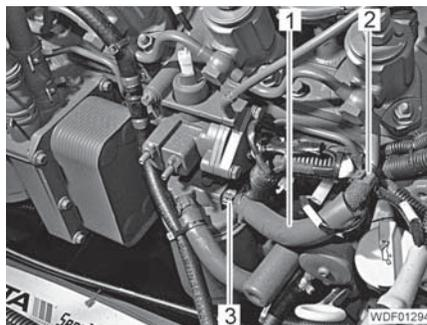

Fig. 92 Fuel line
- Close off the fuel line (Fig. 92,1) at both ends.
- Remove the clamp (Fig. 92,2) and clamp (Fig. 92,3).
- Attach fuel line with 1 clamp (Fig. 92,2 and 3) in each case.
- Secure the clamp (Fig. 92,2) and clamp (Fig. 92,3).